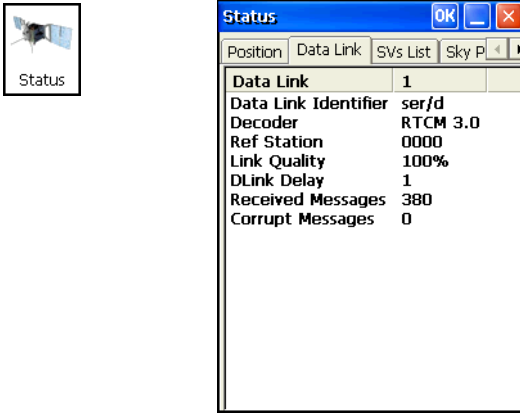

Figure 3-28. Status - Data Link
2. Start PC-CDU on a computer. The PC-CDU *Main Screen* displays (Figure 3-28).